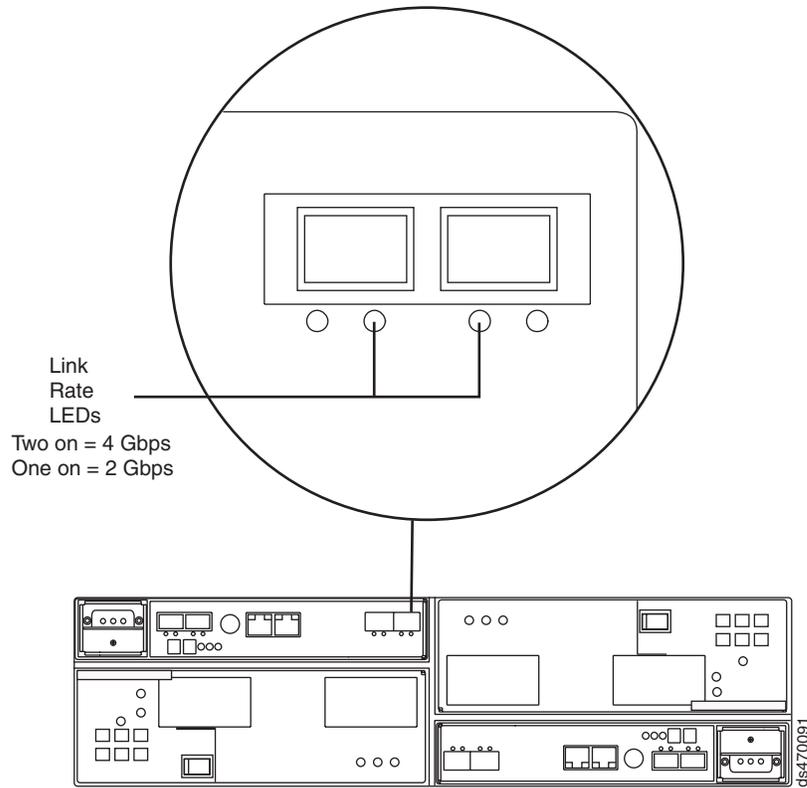

Figure 104. Link rate LEDs
2. Locate the Link Rate indicator LEDs. Figure 104 on page 155 shows the location of the Link Rate indicator lights on the back of the storage subsystem.